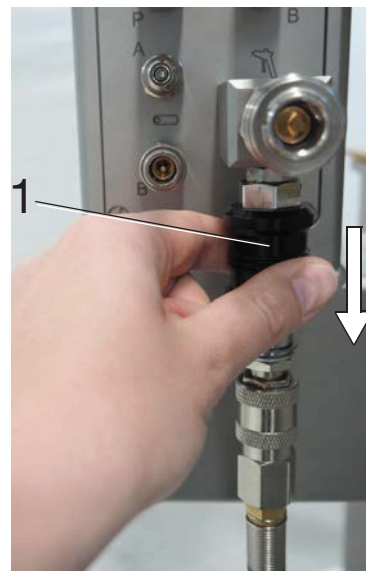

Fig. 1-8 Arrow: pointing against the direction of flow
- Push the air release valve (1, Fig. 1-8) against the direction of flow (see arrow, Fig. 1-8), thereby opening it.